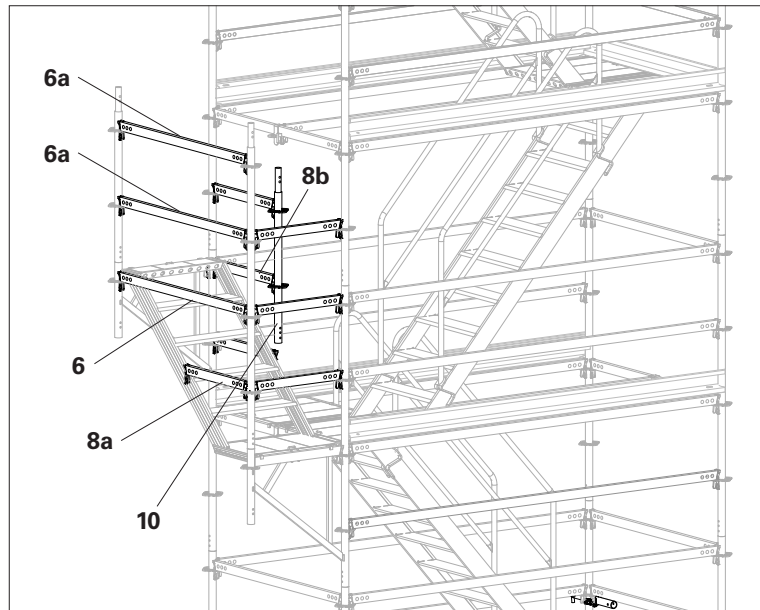

Fig. B8.05
7. Remove Horizontal Ledger UH-2 150 from the base scaffold and fit it at the exit point as lateral protection **(6a)**. (Fig. B8.05)